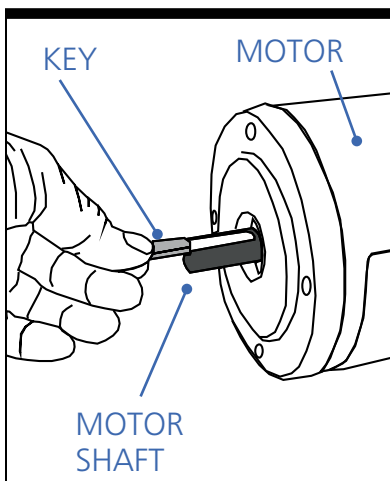

Figure 5-2. Motor Key/Shaft
**Step 7—Install Motor.** Install the key to the motor shaft and coat the shaft with anti-seize compound (see Figure 5-2). Insert the motor shaft into the speed reducer. Rotate the motor to the correct position and firmly secure to flange with four hex-head cap screws. Do not allow the motor to "hang" unsupported before fully seated in the reducer to avoid damaging the reducer input seal. If the motor does not readily seat itself, check to see if the key has moved.